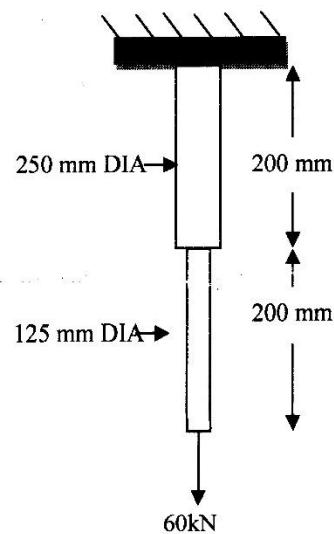

Figure 6
| Q.5 | (a) | Using FEM, determine nodal displacements in elements for the Mild Steel bar assembly shown in the figure 6. consider $E = 20000 \text{ N/mm}^2$. | 03 |
- (b) Using FEM, determine stresses in elements for the Mild Steel bar assembly shown in the figure 6. consider $E = 20000 \text{ N/mm}^2$. 04